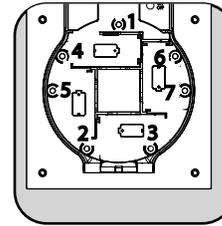

Figure 8
3.2 Place the Pürleve Handle against the door as shown. Line-up the seven mounting holes. (Fig. 8)